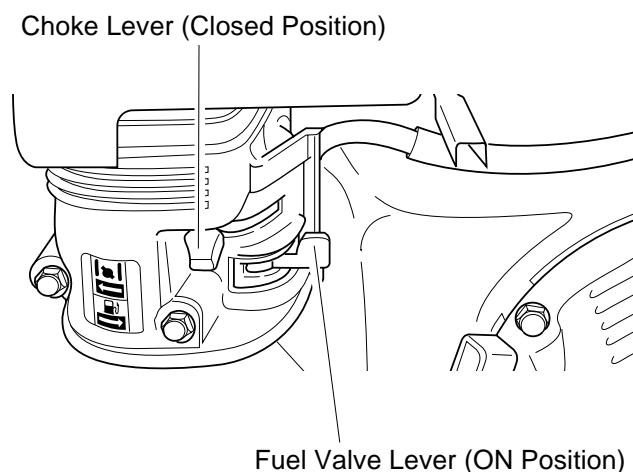

Figure 15 - Fuel Valve Lever On, Choke Lever Closed
2. Move fuel valve lever to the ON position (see Figure 15).
3. Move choke lever fully to the left (see Figure 15). This closes the choke.